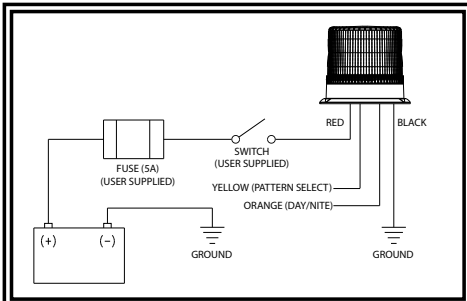

Figure 3
5. Connect the power wires as shown in the wiring section (see Figure 3).
The wiring for this configuration is as shown in Figure 3 below. All wiring should be a minimum of 18AWG. The positive line must have a 5 amp fuse, as shown. A switch may be used to control the on/off function.